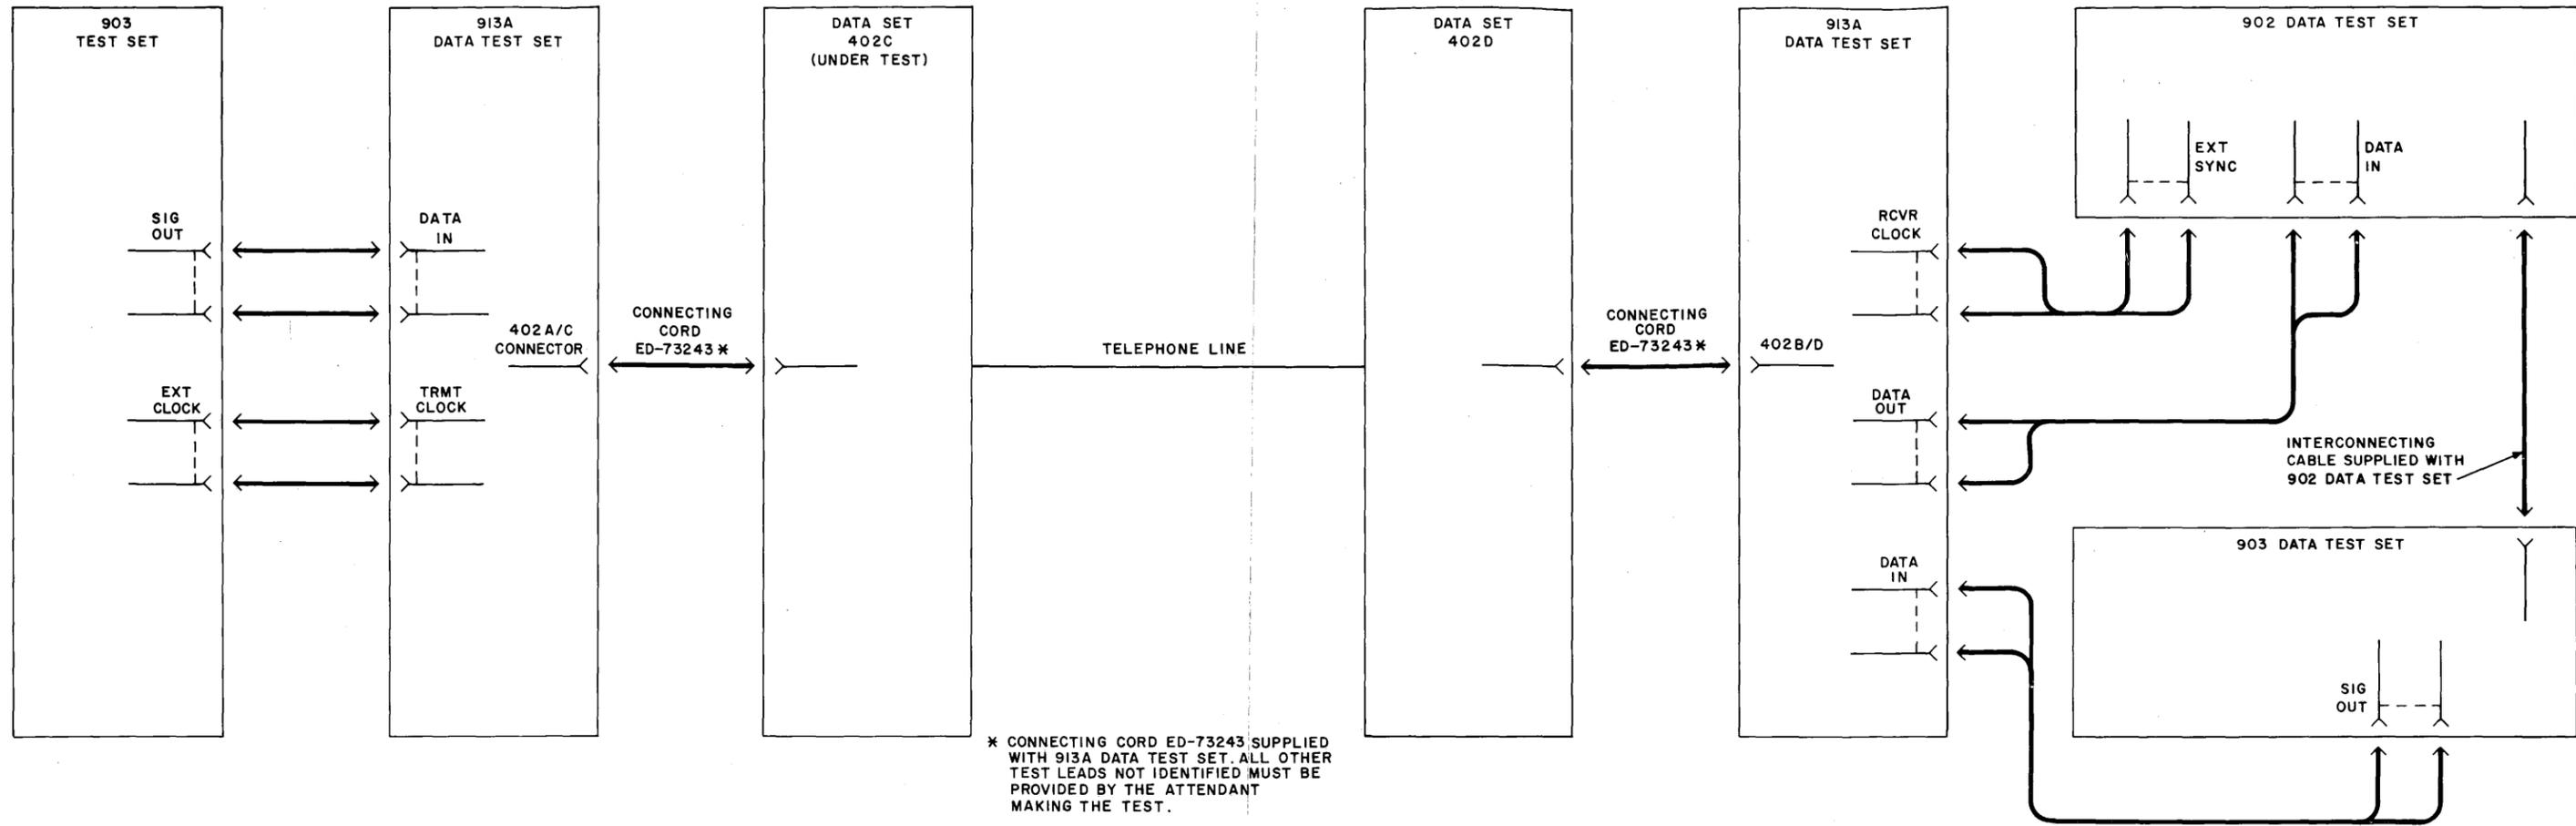

Fig. 5—Dynamic Test for End-to-DTC or End-to-End Test Using 913A and 903 Data Test Set—Test Connection Diagram
3	Establish connections as shown in Fig. 5.
3.20 Connect the test equipment for the transmit station in accordance with Fig. 5. Connections for the receive station are illustrated for general information only.